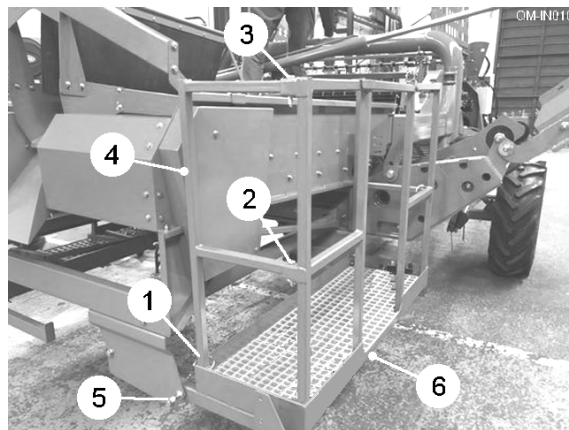

Fig. 24
1. Remove the clip pins (item 1, 2 & 3, fig. 24).
2. Lower the front and rear rails (item 4, fig. 24) down flat onto the platform base.
3. Remove the platform locking pins x2 (item 5, fig. 24).
4. Slide the platform (item 6, fig. 24) fully inwards to the transport position.
5. Refit the platform locking pin (item 5, fig. 24) and resecure with the 'R' clip.